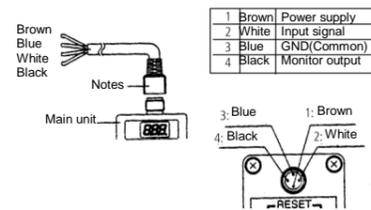

Figure 6 – Connection details
- Push 'Up' and 'Down' keys (Fig 6) together for longer than 3 seconds.